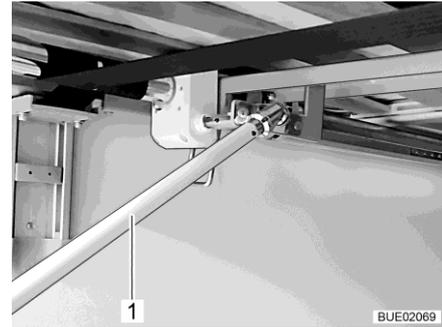

Fig. 133 Crank in the rear garage
- To lift the bed: Turn the crank (Fig. 133,1) clockwise.
To lower the bed: Turn crank (Fig. 133,1) in an anticlockwise direction.